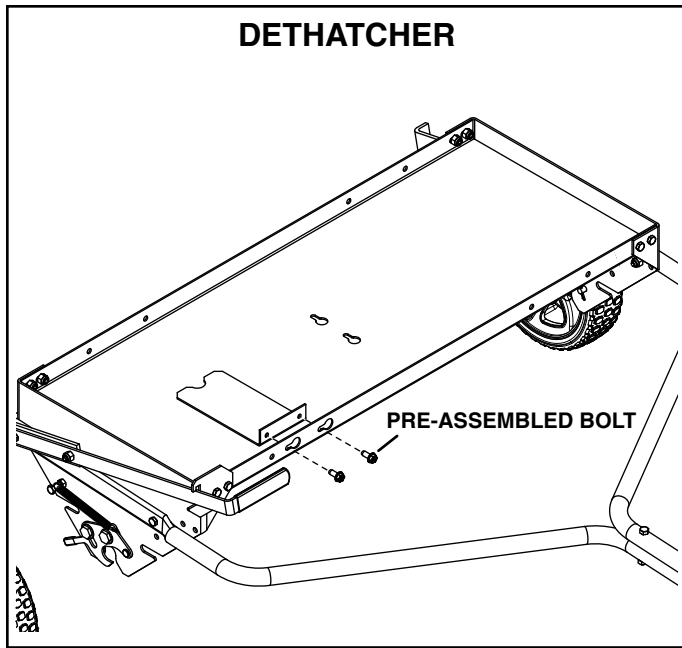

FIGURE 9
1. For dethatcher tool, the center brace should be attached to the top of the Smartlink Platform as shown in figure 9. **Tighten.**